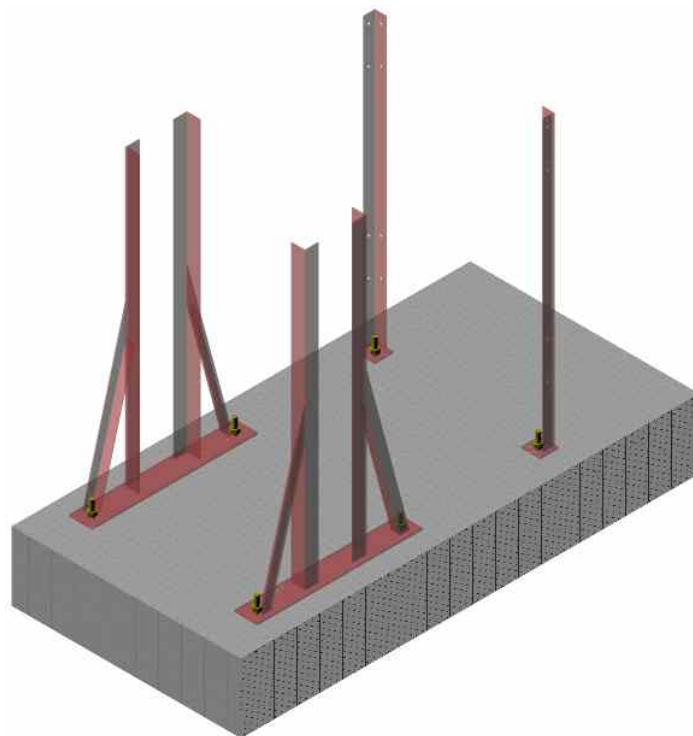

Fig.12 Arrangement with CT Structure (Optional)
- Fix Lower Legs of CT Structure Assembly (optional) as per Fig.12